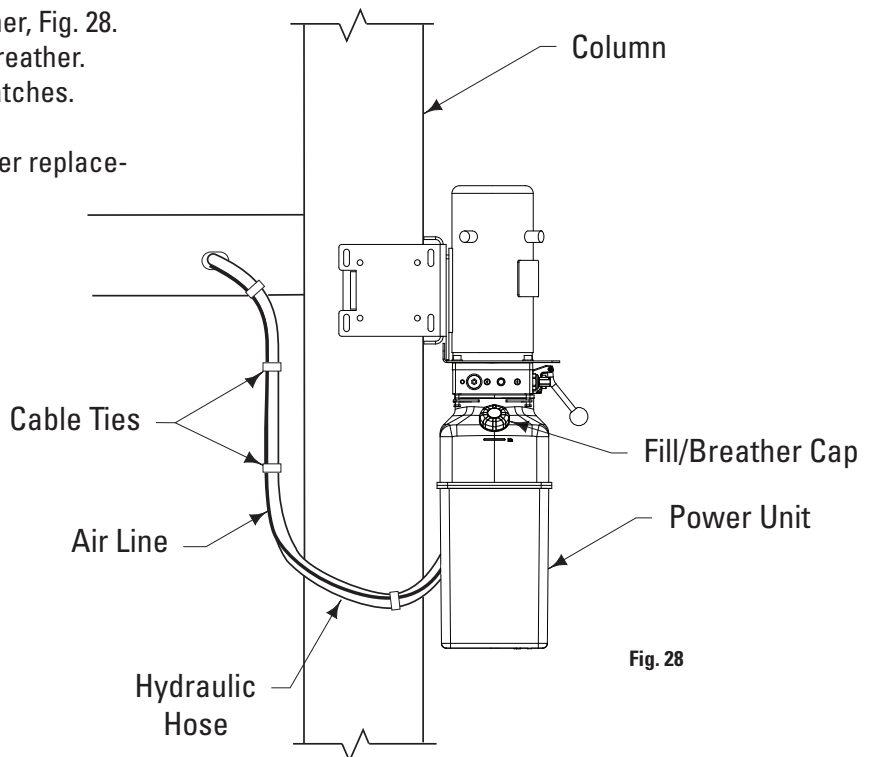

Fig. 28
25. **Hydraulic Fluid Filling:** System capacity is thirteen (13) quarts. Use Dexron III ATF. Remove fill/breather, Fig. 28. Pour in thirteen (13) quarts of fluid. Replace fill/breather. Start motor and raise lift to full rise. Lower onto latches.
Note: If fill/breather, Fig. 28, is lost or broken, order replacement.
27. Bleeding: Lift must be fully lowered before changing or adding fluid. Raise and lower lift six times. The cylinder is self-bleeding. After bleeding system, fluid level in power unit reservoir may be down. Add more ATF or ISO32 hydraulic oil, if necessary, following instructions in Step 16. To pressure test, run lift to full rise and run motor for approximately 5 seconds. Stop and check all fittings and hose connections. Tighten or reseal if required. Lower lift. If fill/breather cap, Fig. 28, is lost or broken, order replacement.